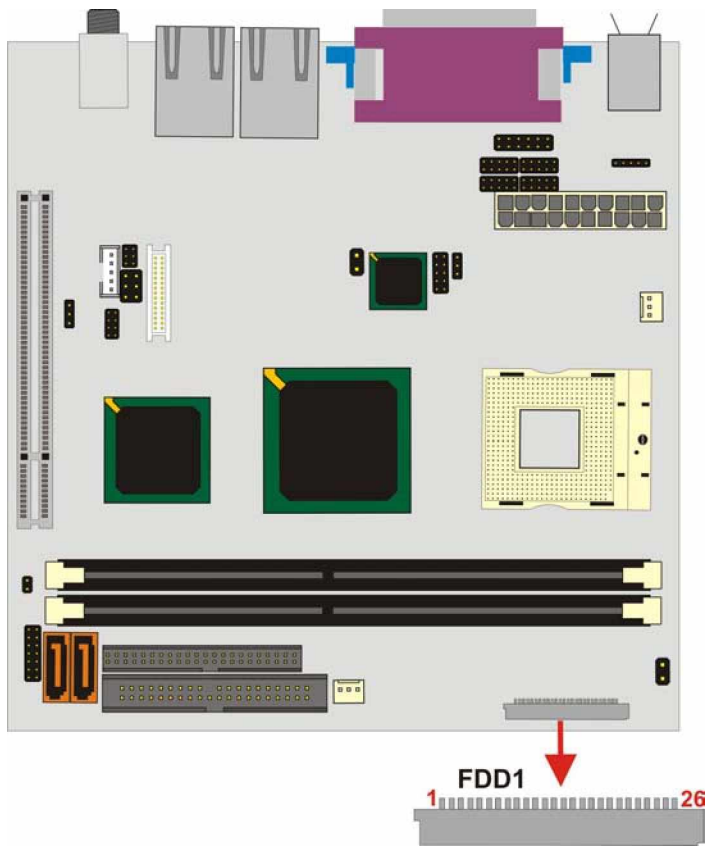

Figure 3-5: FDD Pinout Locations
- CN Location:** See Figure 3-5